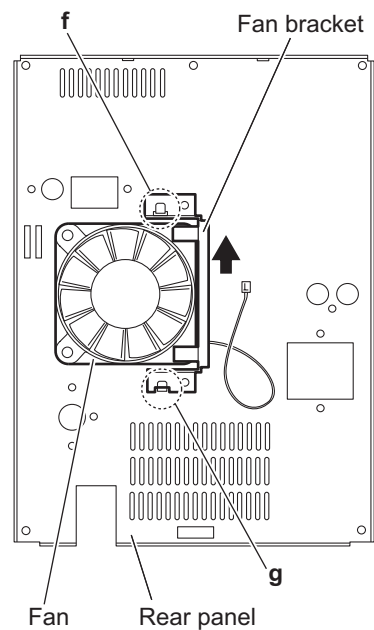

Fig.15
- (2) From the inside of the rear panel, move the fan bracket in the direction of the arrow to release the engagement sections (**f**, **g**). (See Fig.15.)
- (3) Remove the fan bracket from the rear panel and remove the fan. (See Fig.15.)